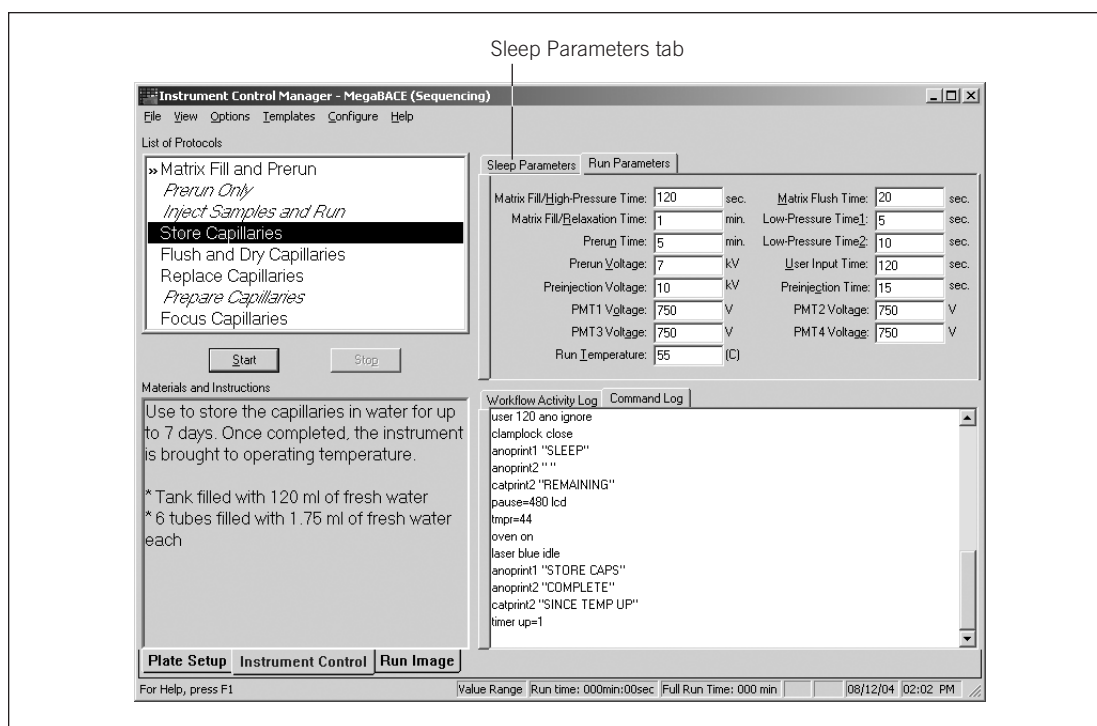

Figure 5-2. The Instrument Control window.
1. Click the **Instrument Control** tab (figure 5-2) to display the Instrument Control window.